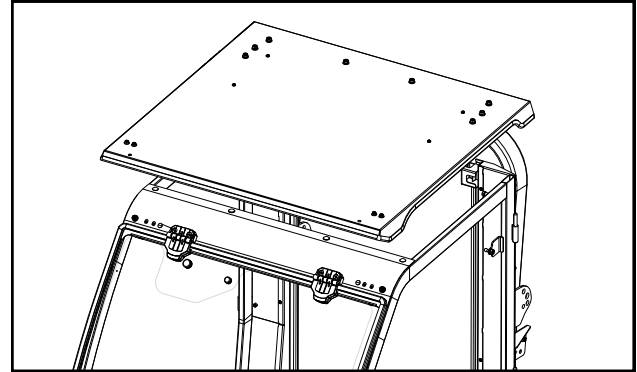

Fig. 13.1 (roof installation)
**13.1** With assistance, lift the roof onto the side frames. See fig. 13.1. Take care not to engage the quick release latches with the side frame latch pins.